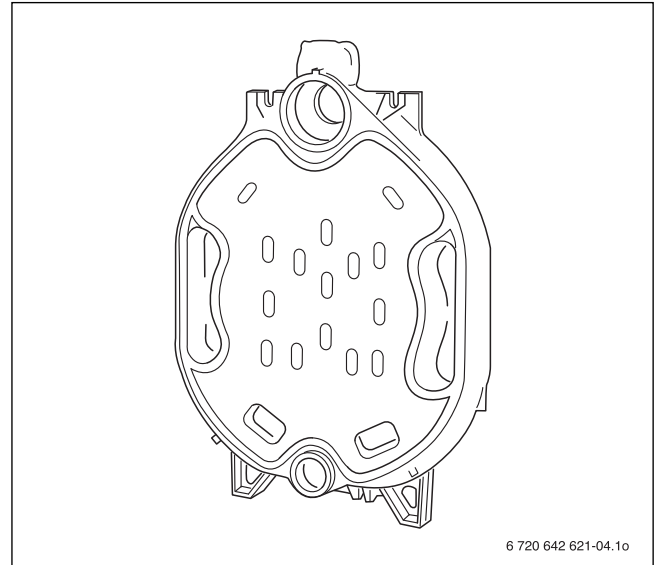
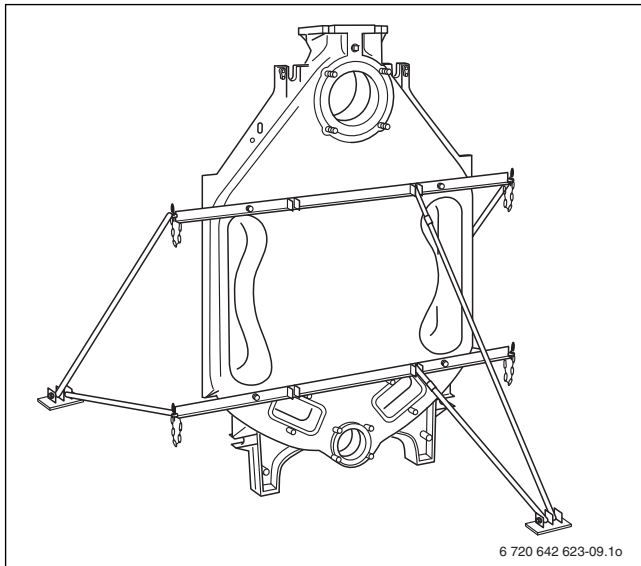

Fig. 9 Rear section
Fig. 11 Fastening the installation aid
- ▶ Set up the rear section and secure with the installation aid to prevent it from tipping (→ Fig. 11 and Fig. 9 and separate installation instructions for installation aid).